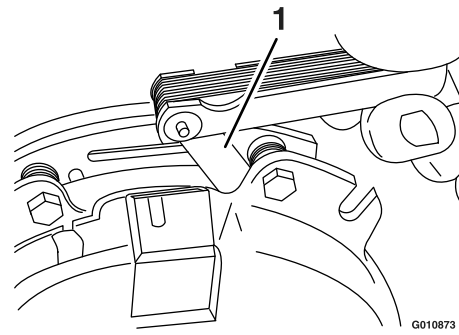
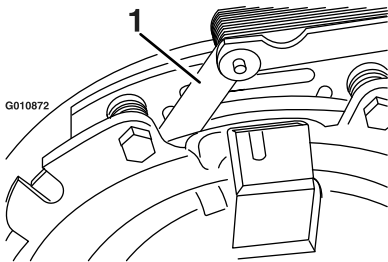

Figure 77
Figure 76
- E. Using a 0.25 mm (0.01 inch) thick feeler gauge, verify that a gap is present between the rotor and the armature face on both sides of the brake pole as shown in Figure 76 and Figure 77.